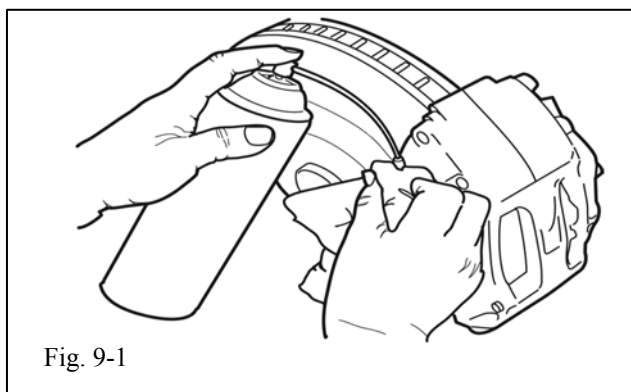

Fig. 9-1
-  (a) Remove any traces of brake fluid which may remain in the bleed screw nipples by spraying brake cleaner into each one, and using a cloth to wipe away any excess (Fig. 9-1).